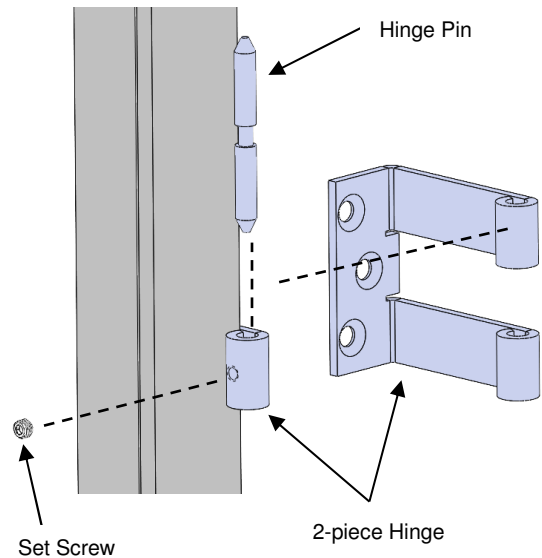

Figure B1:
1. With a 2mm Hex wrench remove the set screw from all screen hinges (Figure B1).